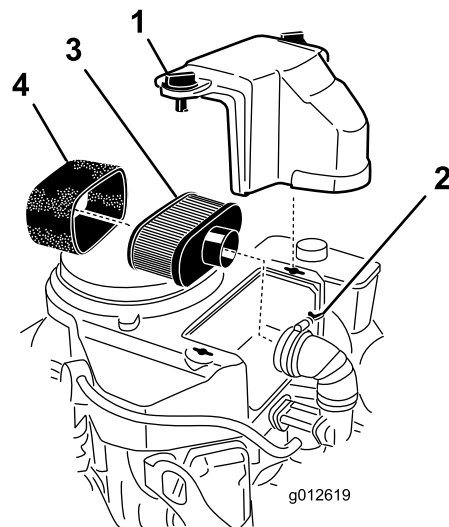

Figure 39
3. Clean around the air cleaner to prevent dirt from getting into the engine and causing damage (Figure 39).
4. Loosen the cover knobs and remove the air-cleaner cover (Figure 39).
5. Loosen the hose clamp and remove the air-cleaner assembly (Figure 39).
6. Carefully pull the foam element off the paper element (Figure 39).
1. Carefully slide the foam element onto the paper air-cleaner element (Figure 39).
2. Place the air-cleaner assembly onto the base of the air cleaner or hose and secure it (Figure 39).
3. Place the air-cleaner cover into position and tighten the cover knob (Figure 39).